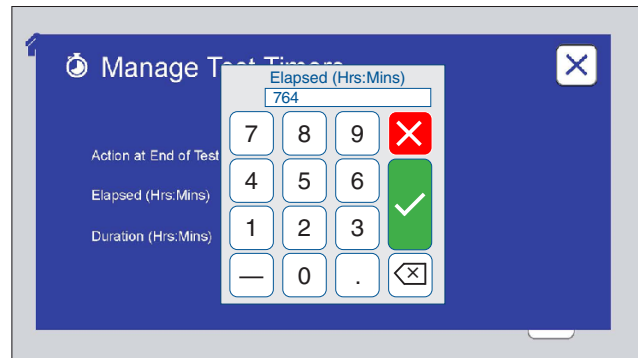

Figure 9.5e: Enter the desired hours and minutes. Touch the check mark to save, or the X to cancel changes.
- o Set the duration in hours and minutes for the current test (Figure 9.5e).